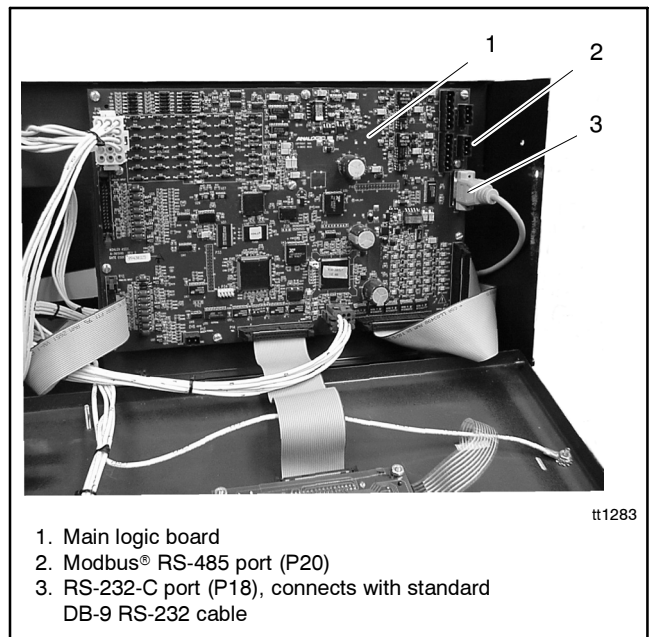
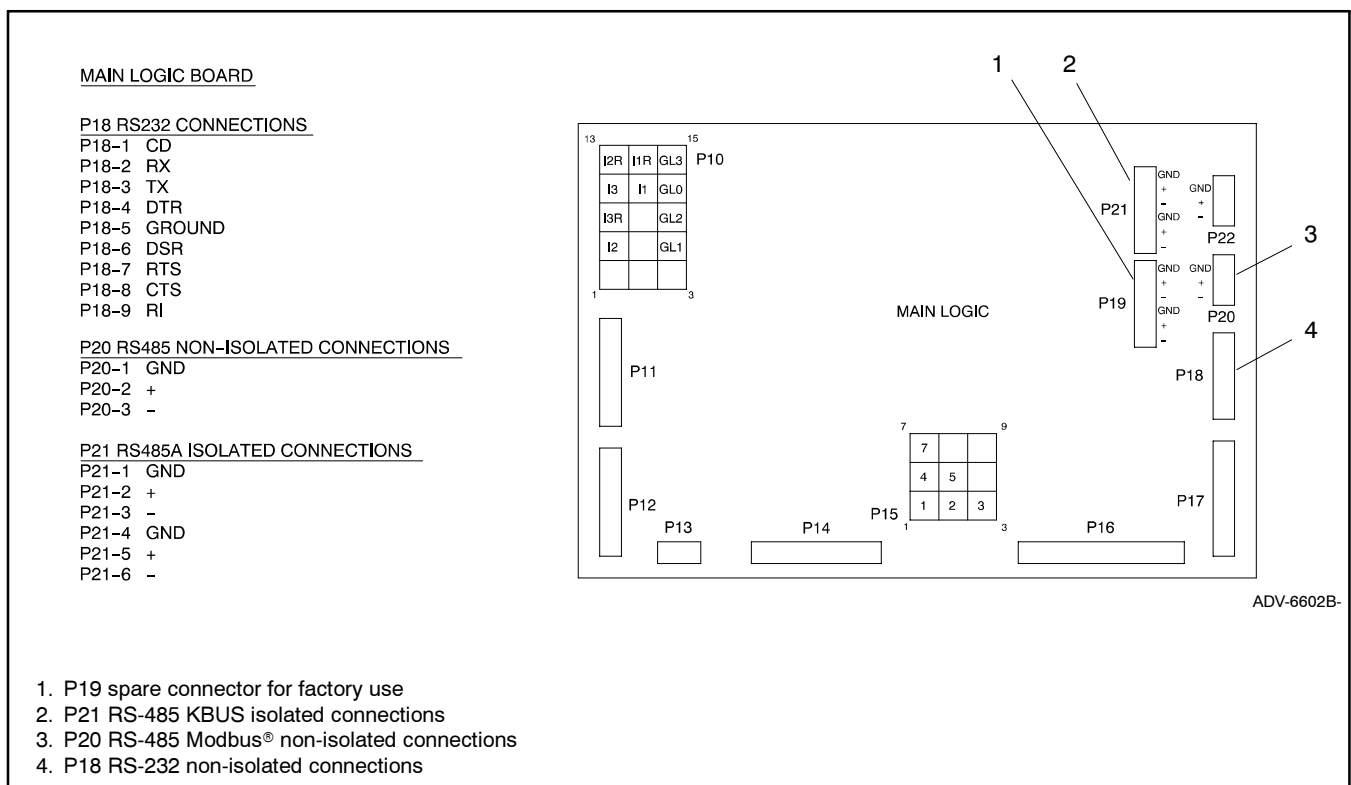

Figure 2-2 Communication Port Locations for Decision-Maker™ 550 Generator Set Controller
Figure 2-3 Communication Connections Pin Identification
5. Open the enclosure and locate the connection ports as shown in Figure 2-2 and Figure 2-3.